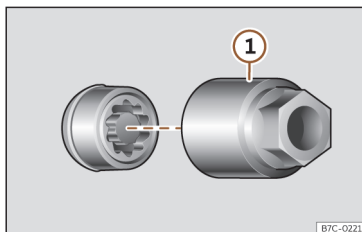

Fig. 36 Anti-theft wheel bolt with cap and adapter.
- Insert the special adapter >>> Fig. 36 ① (vehicle tools) >>> page 43 onto the anti-theft wheel bolt and push it on as far as it will go.